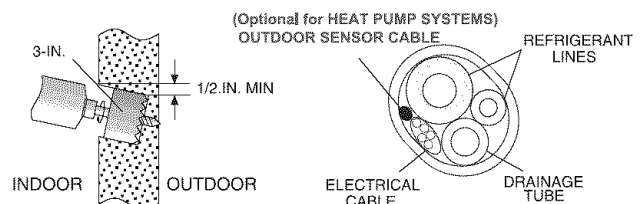

Fig. 5 — Drill Holes
To make the connections between the indoor and outdoor units, drill a (09, 12) 2.5-in. (18) 3-in. hole through the wall for the refrigerant lines, drainage hose and control cable passage as shown in Fig. 5.
5. Make sure the drainage hose is at the bottom side of the wall through-hole (see Fig. 5).